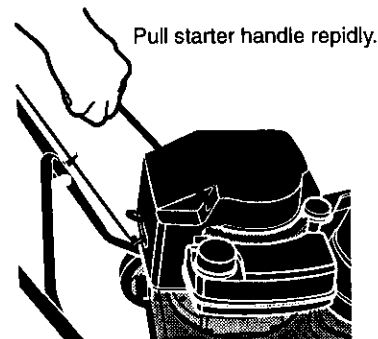

Figure 7
5. Pull the **starter handle** rapidly (See Figure 7). Do not allow the handle to snap back, but allow it to rewind slowly while keeping a firm hold on the **starter handle**.